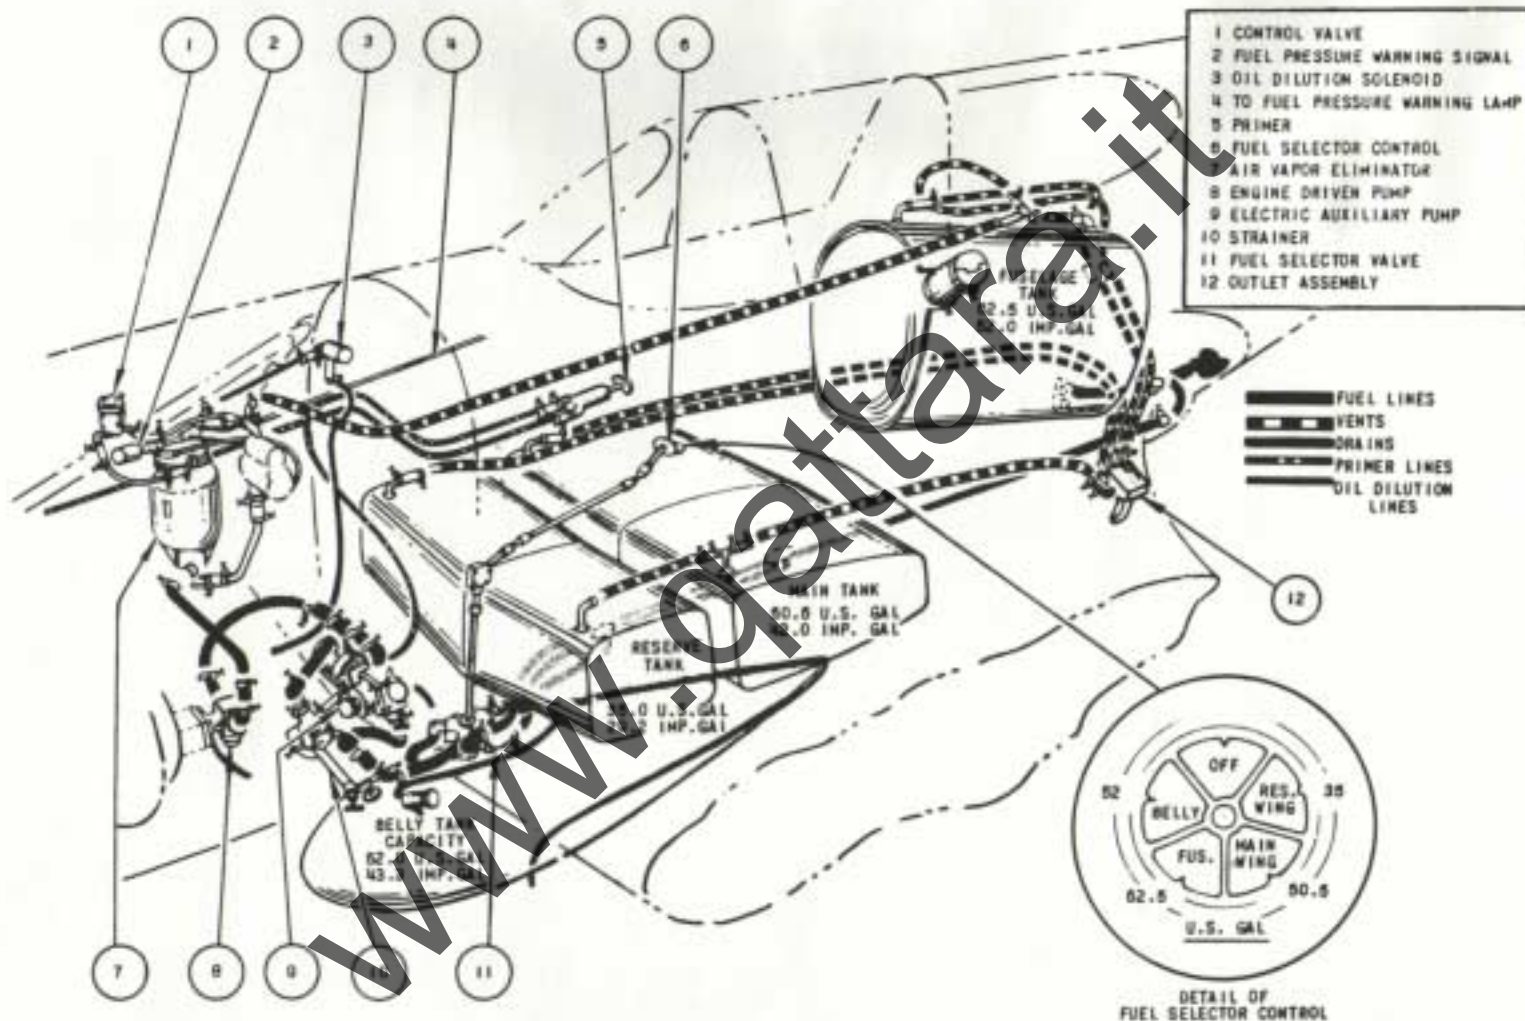

Figure 4 - Fuel System Diagram
f. Fuel System. - See figure 4.